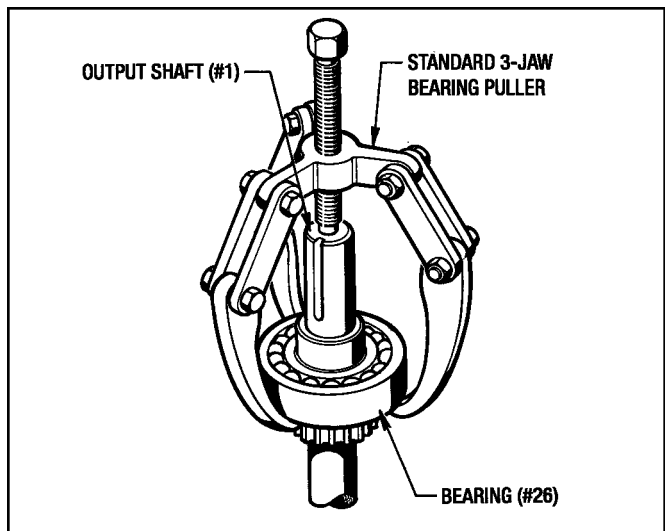

Figure 7.7 - Removing Bearing (#25)
(See Figures 7.7 and 10.3)
1. With an Arbor Press, Bearing Splitter and appropriate tooling first remove Bearing (#38) and then Bearing (#35) from the Input Shaft (#2). (See Figure 7.7 on the next page.)
4. Remove Bearing (#26) with a Bearing Puller. (See Figure 7.7)
4. Remove Bearing (#26) with a Bearing Puller. (See *Figure 7.7*)